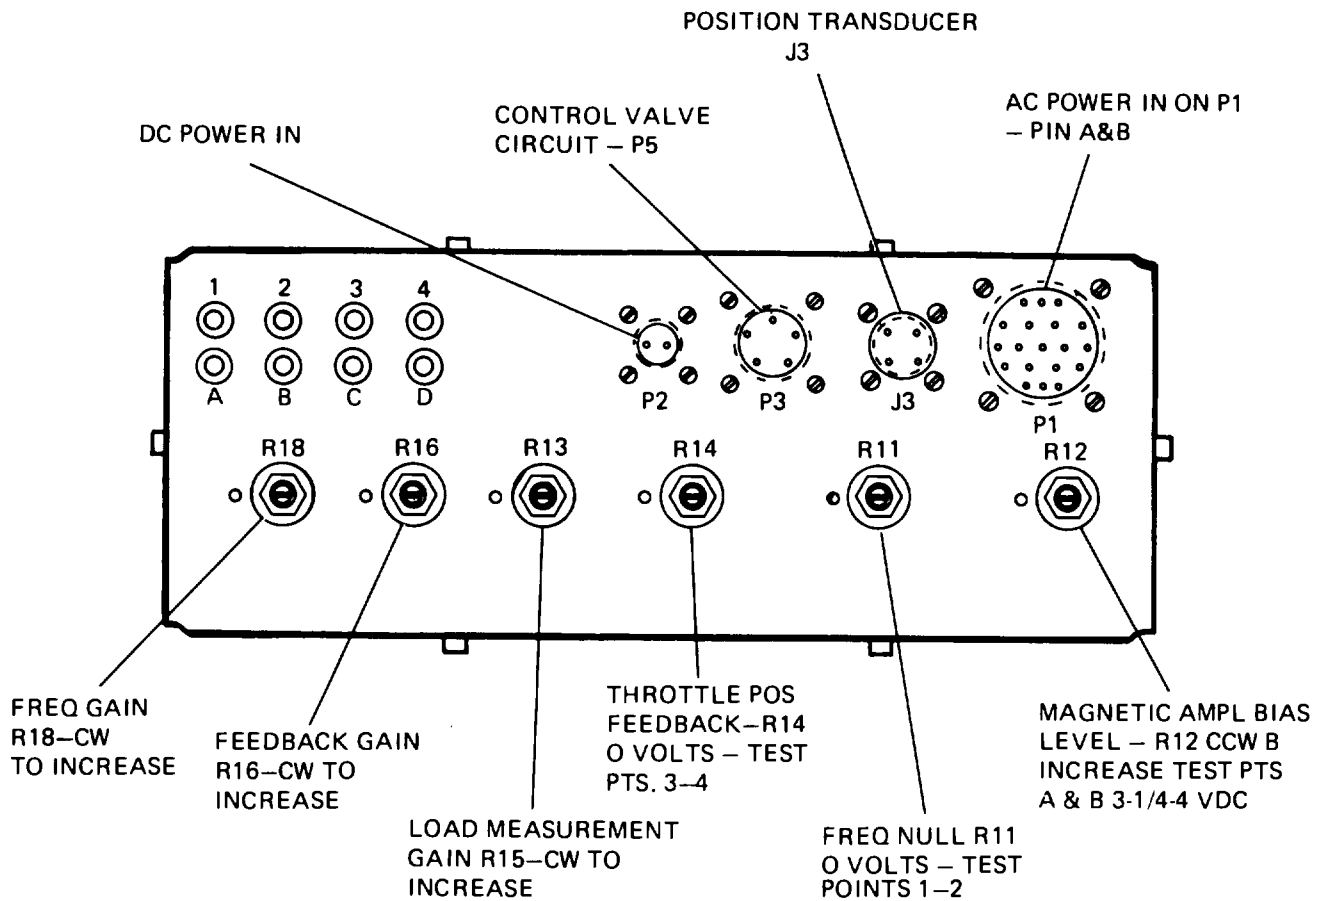

Figure 3-83. Electro-Hydraulic Governor Control Unit Control Panel
j. Alignment Procedure. See figure 3-83 for identification of controls and perform the following procedures.
- (1) Set R11, R14, R16 and R18 rheostats at mid-point.
- (2) Set R15 full counterclockwise.
- (3) Set R12 approximately 3/4 turn counterclockwise.
- (4) Refer to Unit Maintenance Manual and start engine. If engine oscillates rapidly, adjust R16 and R18 until operation is stable.
- (5) Once set has been stabilized, adjust R1 rheostat on control panel to obtain 60 Hz or 400 Hz.
- (6) Connect a dc voltmeter with 0-10 volt range across test points 3 and 4. Test point 4 is positive. Adjust R14 until voltage across test points 3 and 4 is zero at no load.
- (7) Connect dc voltmeter across test points 1 and 2. Test point 1 is positive. Adjust R11 for zero volts at 60 Hz or 400 Hz at no load. Repeat adjustment until voltage across test points 1 and 2 and 3 and 4 is zero and frequency is 60 Hz or 400 Hz.